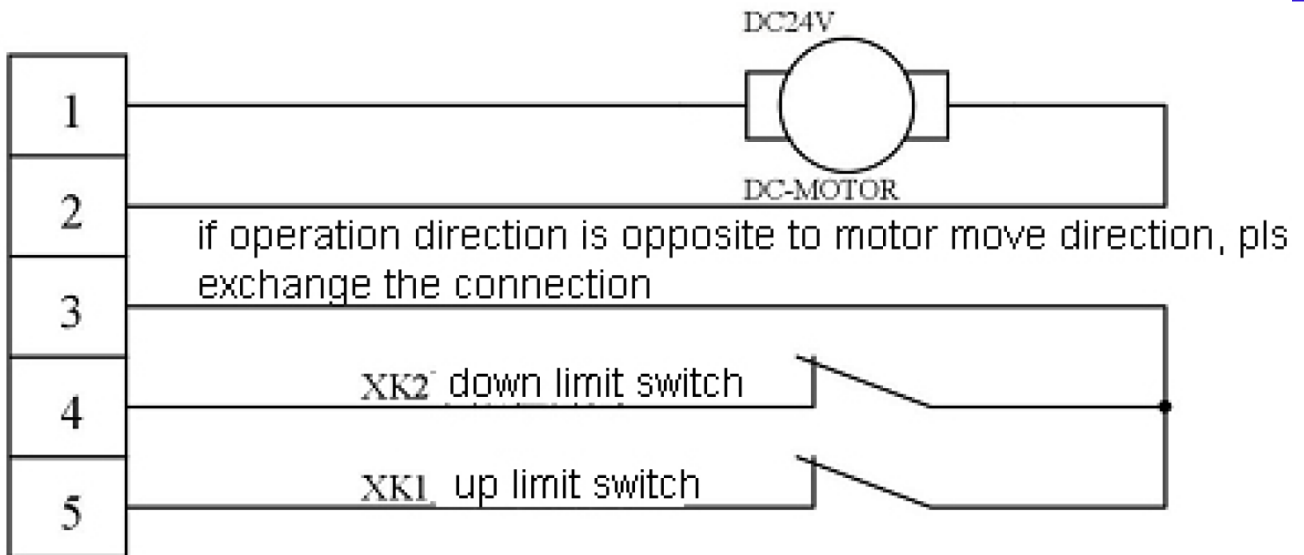

Figure 3-5
-3. When “D” and “C” lights are off, please test the “UP”/ “DOWN” buttons. “UP”---torch goes up; “DOWN”---torch goes down; if the torch moves opposite way, please exchange the connection of the “MOTOR1” and “MOTOR2” shown in Fig 3-5. If the motor don’t move, please check the UP-limit switch and Down-limit switch.